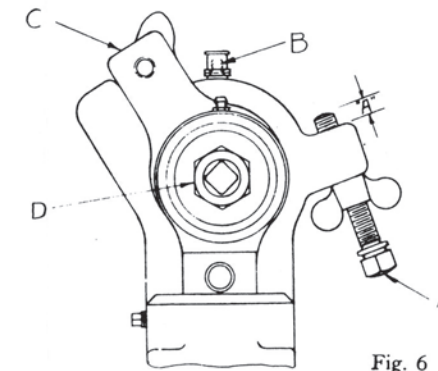

Fig. 6
1. The length of stroke is determined by the gauge or thickness of material being cut. Refer to Fig. 6, loosen lock nut D, turn dial indicator until gauge number desired is opposite the mark and lock nut D.
Use grease on all Alemite fittings. When greasing fitting B, fig. 6, be sure that eccentric drive shaft housing "C" is in position shown, otherwise grease will not get through to bearings.